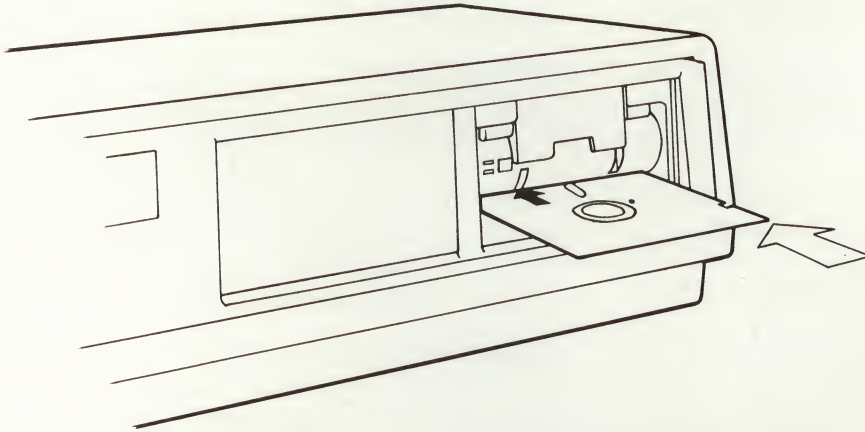

Figure 8 Insert Diskette into Drive B
- 2 Insert a blank diskette into drive B (see Figure 8). Then close the door to drive B, and press the **Do** key.